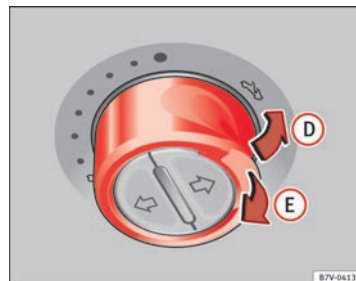

Fig. 58 On the interior roof lining: Press the button and pull on it to lift and close the sliding sunroof
⇒ Fig. 58
- *Panoramic sliding sunroof*: Within five seconds of triggering the anti-trap function, pull the control all the way back ⇒ Fig. 58 (arrow E) until the panoramic sliding sunroof closes fully.